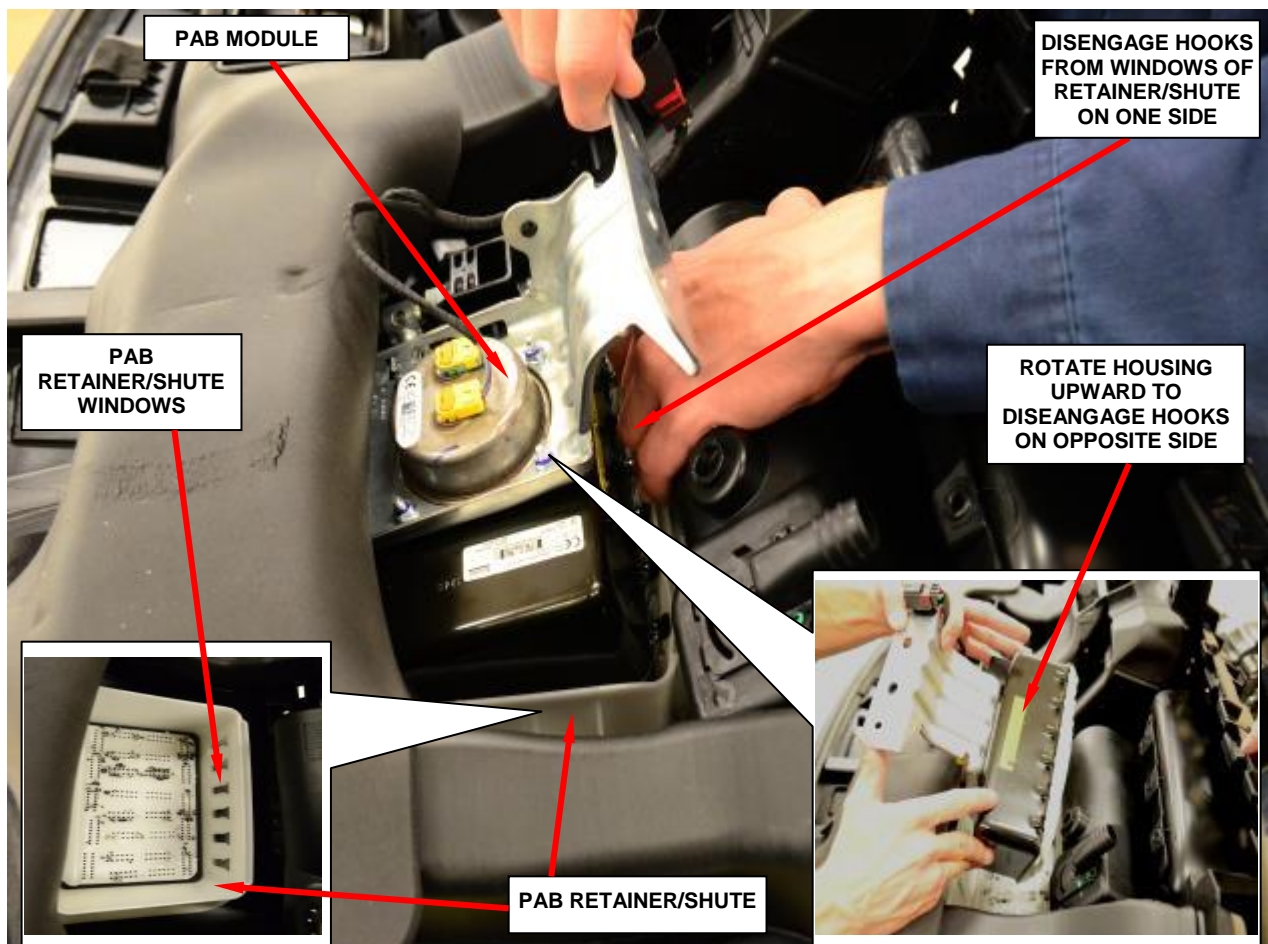

Figure 36 – PAB Module
60. Disengage each of the hooks on one side of the PAB housing from the windows in the forward and rearward vertical walls of the PAB retainer/chute on the underside of the instrument panel cover. To disengage the hooks, use hand pressure to pull the adjacent edge of the PAB housing firmly and evenly upward out of the retainer receptacle, while at the same time pulling the upper edge of the PAB receptacle wall outward far enough to disengage the hooks (Figure 36).